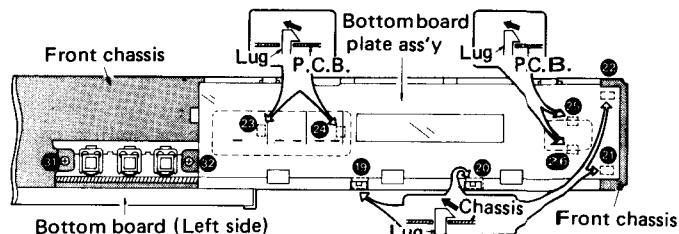
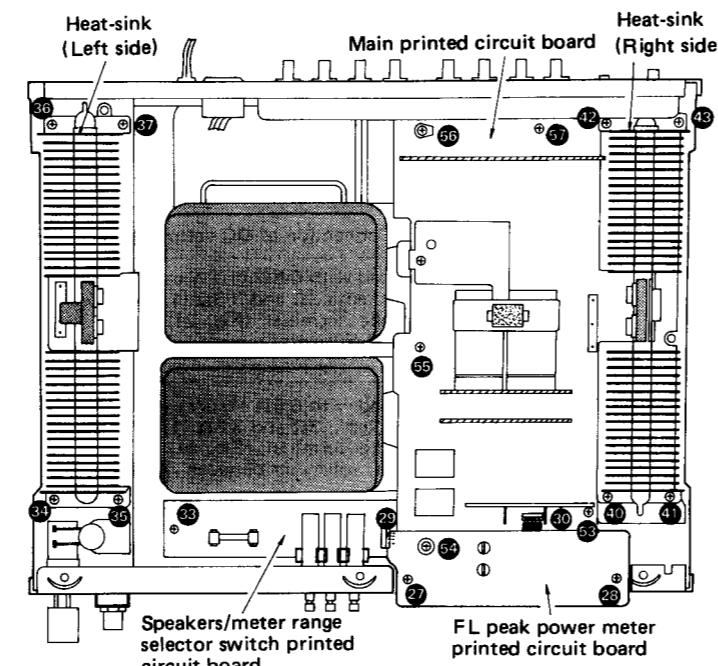

Fig. 10
Fig. 11
3. As shown in Fig. 10, 11 lugs (⑯ ~ ⑰) to detach the display window plate ass'y from the front chassis.
4. 4 lugs (⑲ ~ ⑳ in Fig. 10) to detach the printed circuit boards from the back of the display window plate ass'y.
5. Remove the 2 setscrews (㉑, ㉒ in Fig. 11) of the FL peak power meter printed circuit board.
6. Remove the 2 lead connector (㉓, ㉔ in Fig. 11) of the printed circuit board.
4. Remove the 3 setscrews (31 ~ 33 in Fig. 10 and Fig. 11) and cut off the 2 lead clamps.
2. Remove the 4 setscrews (34 ~ 37 in Fig. 11) of the heat-sink.
3. Remove the 4 setscrews (④ ~ ⑦ in Fig. 11) of the heat-sink.
2. Remove the 4 setscrews (⑩ ~ ⑬ in Fig. 11) of the heat-sink.
6. Remove the 4 setscrews (㉒ ~ ㉕ in Fig. 11) of the Heat-sink.
7. Remove the 5 setscrews (㉖ ~ ㉙ in Fig. 11) of the main printed circuit board.